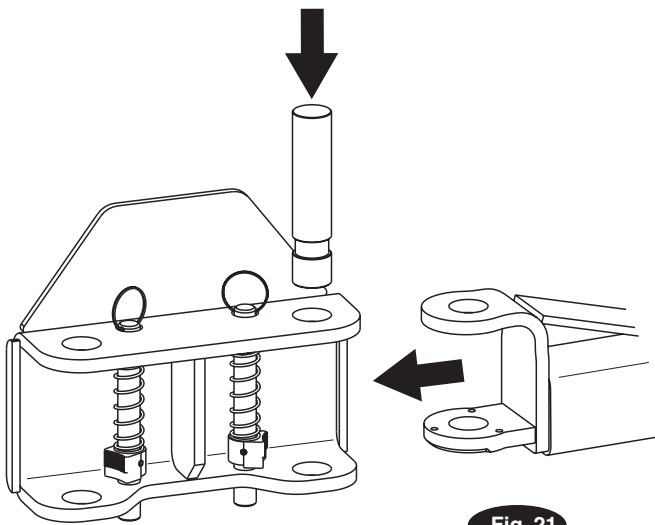

Fig. 21
14. Arms & Restraints: Before installing arms, raise carriages to a convenient height. Grease swivel arm pins and holes with Lithium grease. Slide arm into yoke, Fig. 21. Install 1-3/4" diameter arm pin(s), Fig. 21.